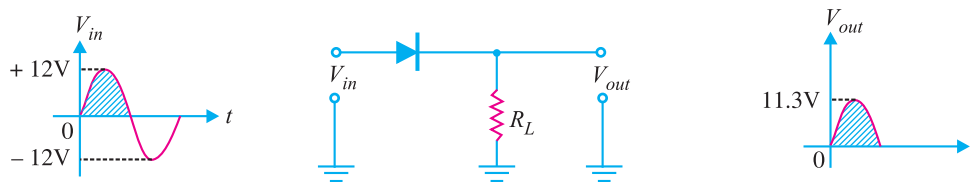

Fig. 18.28
**Example 18.7.** For the negative series clipper shown in Fig.18.28, what is the peak output voltage from the circuit ?